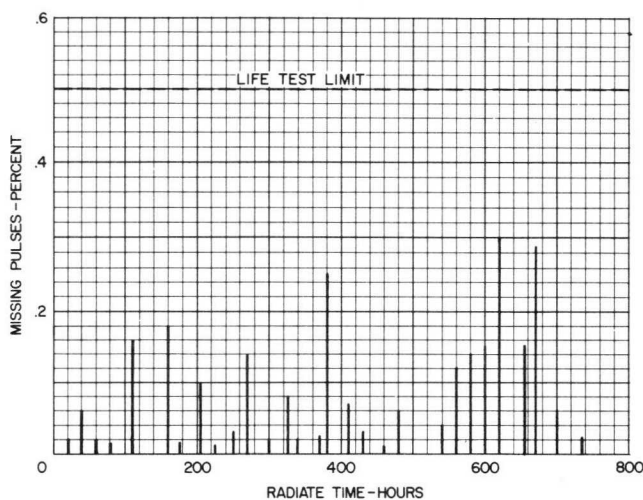

Figure 12—Cathode Memory, Typical Life Data for Sylvania 7692A
**Cathode Memory—(Power Stability)**—One of the major problems associated with multi-pulse system operation is the ability of the magnetron to respond satisfactorily as it is switched between different pulse widths. Results obtained on a quantity of 7692A tubes examined for a time in excess of 700 hours have shown satisfactory performance with less than 0.5% missing pulses. Typical results of this test, during which the pulse widths were programmed to simulate system conditions, are shown in Figure 12. An improvement in this cathode memory characteristic can be obtained if the second pulse condition is preceded by a short period at reduced power. Cathode memory characteristics of the M-4193A are given in the Electrical Specifications Sheet.